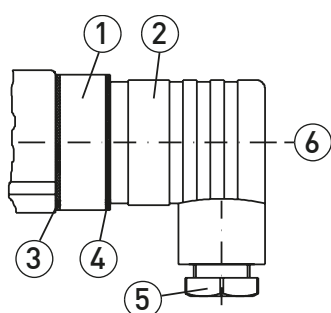
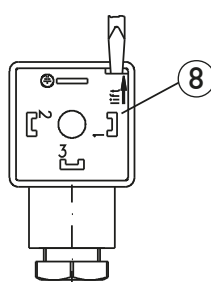

Fig. 1
Fig. 2
- ✚ Insert the connector gaskets ③, ④ and ⑨ correctly.
- ✚ Loosen the central screw ⑥ M3x35 and pull the cable socket ② away from the plug connector ① (→ Fig. 1).
- ✚ Remove the central screw ⑥ from the cable socket ②.
- ✚ Open the inner part ⑧ of the cable socket using a screwdriver or similar tool (→ Fig. 2).